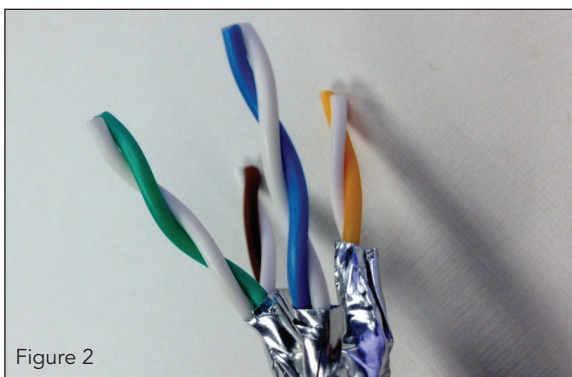

Figure 2
- 4.2 For 568B wiring, trim foil on orange and brown pairs to 1/2". Trim foil on blue and green pairs to 1/8". See Figure 2. **Note:** For 568A wiring, trim foil on the green and brown pairs to 1/2" and the blue and orange pairs to 1/8".